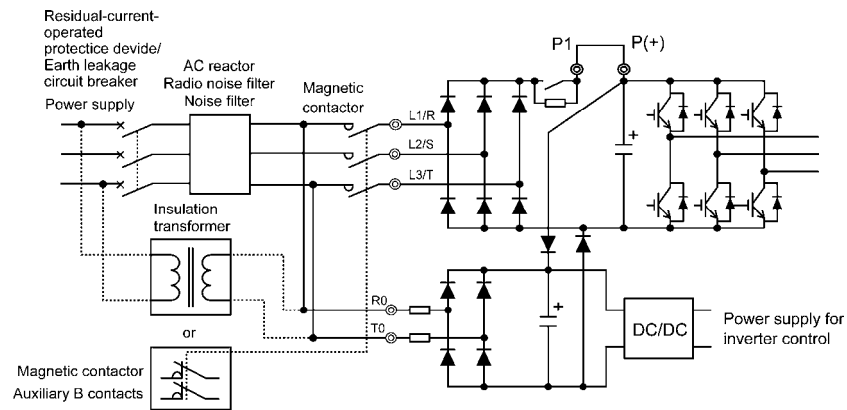

Figure 2.8 Connection Example of residual-current-operated protective device (RCD)/Earth Leakage Circuit Breaker (ELCB)
**Note** When introducing a residual-current-operated protective device (RCD)/earth leakage circuit breaker (ELCB), connect its output (secondary) side to terminals R0 and T0. Connecting its input (primary) side to those terminals causes the RCD/ELCB to malfunction since the input power voltage to the inverter is three-phase but the one to terminals R0 and T0 is single-phase. To avoid such problems, be sure to insert an insulation transformer or auxiliary B contacts of a magnetic contactor in the location shown in Figure 2.8.